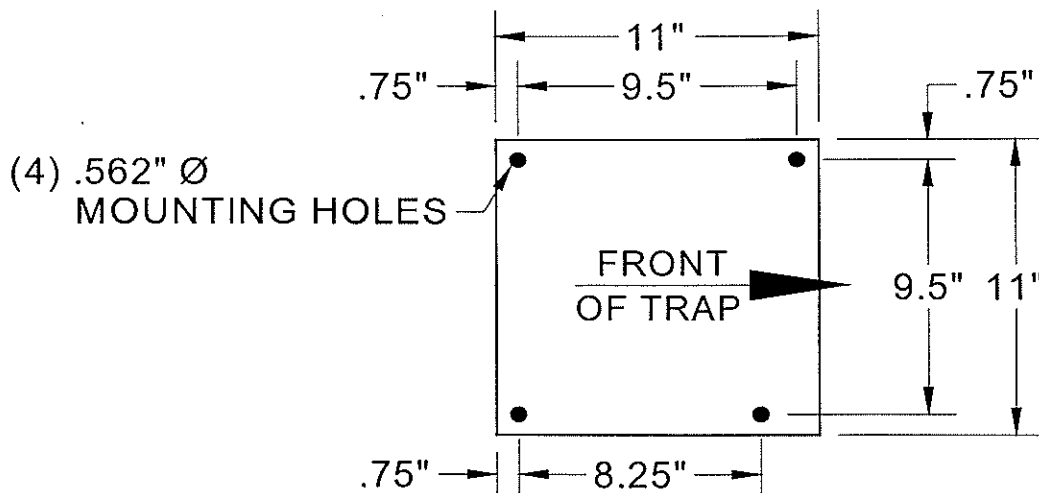

FIGURE 3 - BASE PLATE
5. Install suitable 1/2" dia. mounting bolts and securely fasten trap to mounting surface. See figure 3 for trap base plate mounting hole locations.